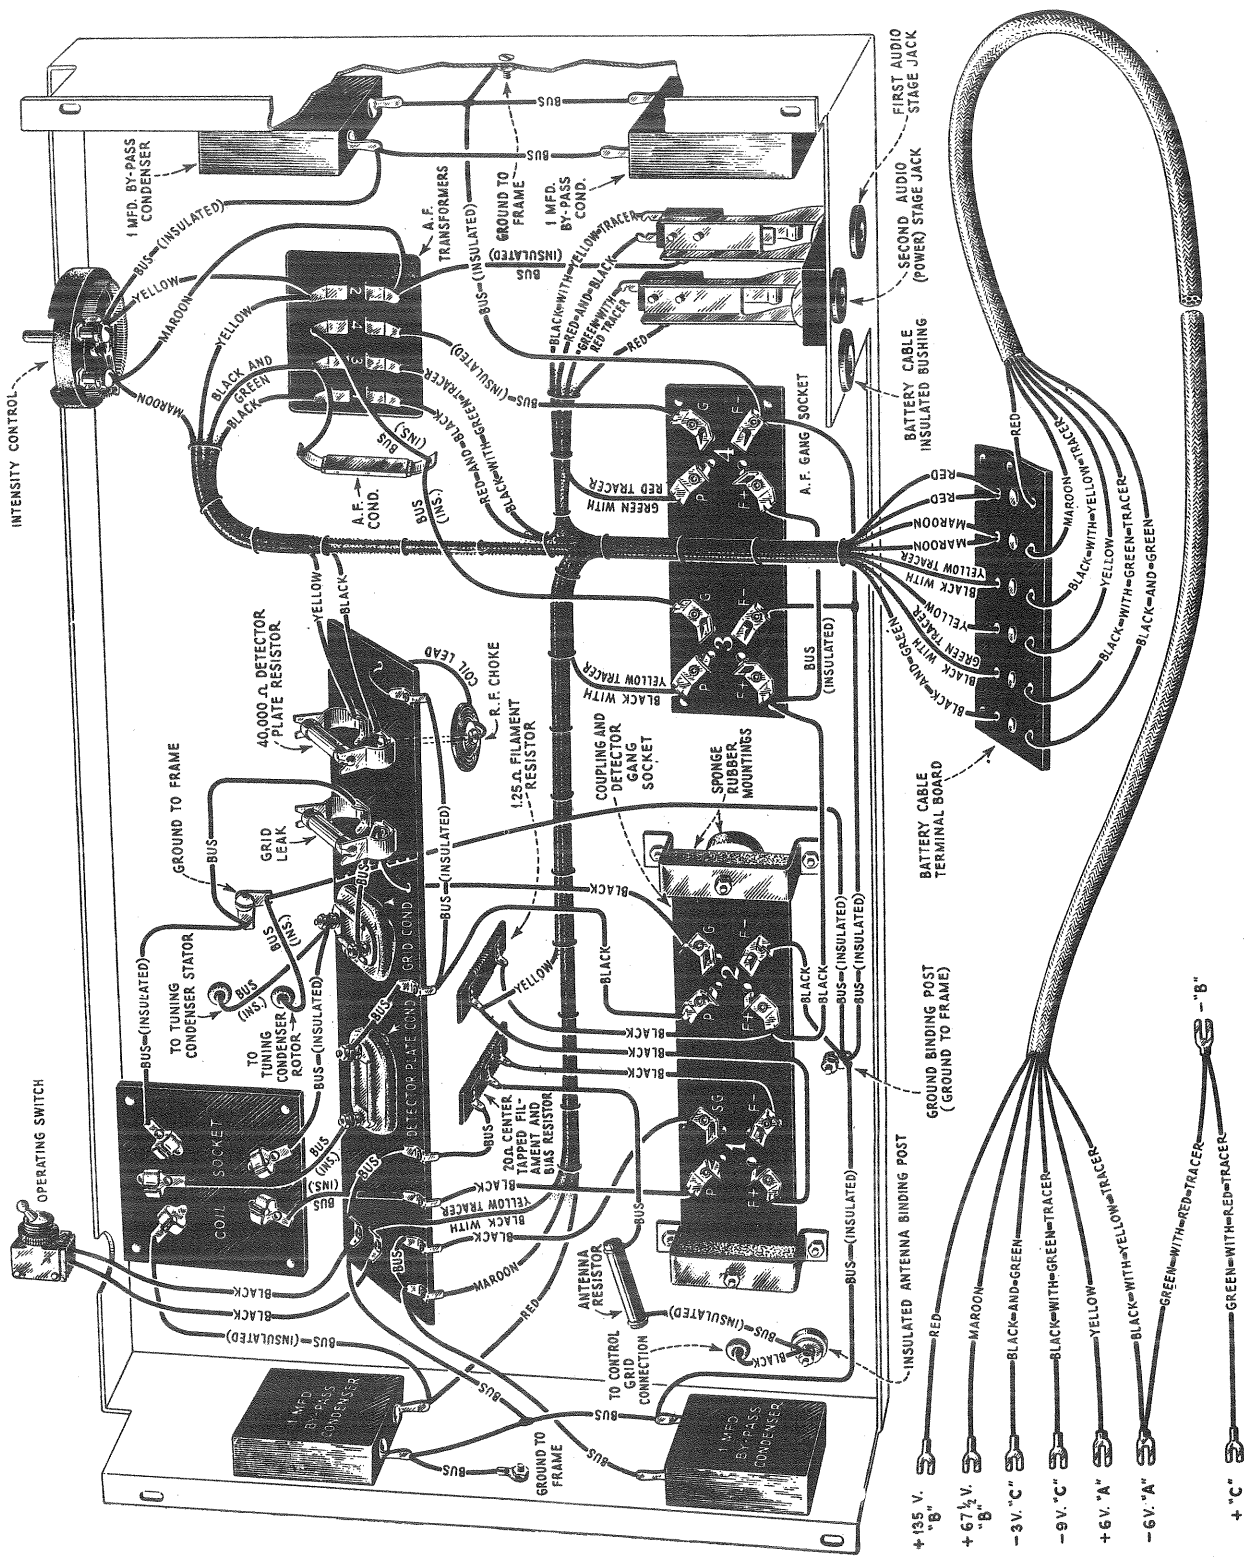

Figure 11—Sub-chassis wiring diagram of receiver
- (c) Replacements should carefully be made in the reverse order. It will be necessary to support the part replaced by holding it, or temporarily clamping it tightly to the chassis in order to bend the tabs to hold securely. Refer to Figure 11 for correct wiring.
- (c) Replacement is made in the reverse order. Refer to Figure 11 for correct wiring.
- (c) Replace the part removed and secure in place by use of small machine screws with nuts and lock washers. Refer to Figure 11 for correct wiring.
- (c) Replacement is made in reverse order. Refer to Figure 11 for correct wiring.
- (b) Replace and connect properly by referring to Figure 11.